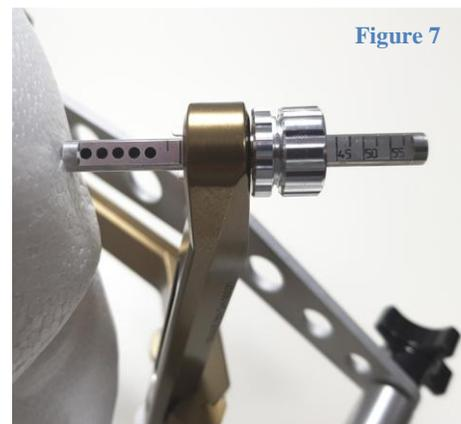

Figure 7
- With the Leksell frame held in position by the patient maintaining pressure on the bite plate, the needle guides may be pushed into place against the skull. (Figure 7). Position all four needle guides, establishing firm contact with the patient's skin.